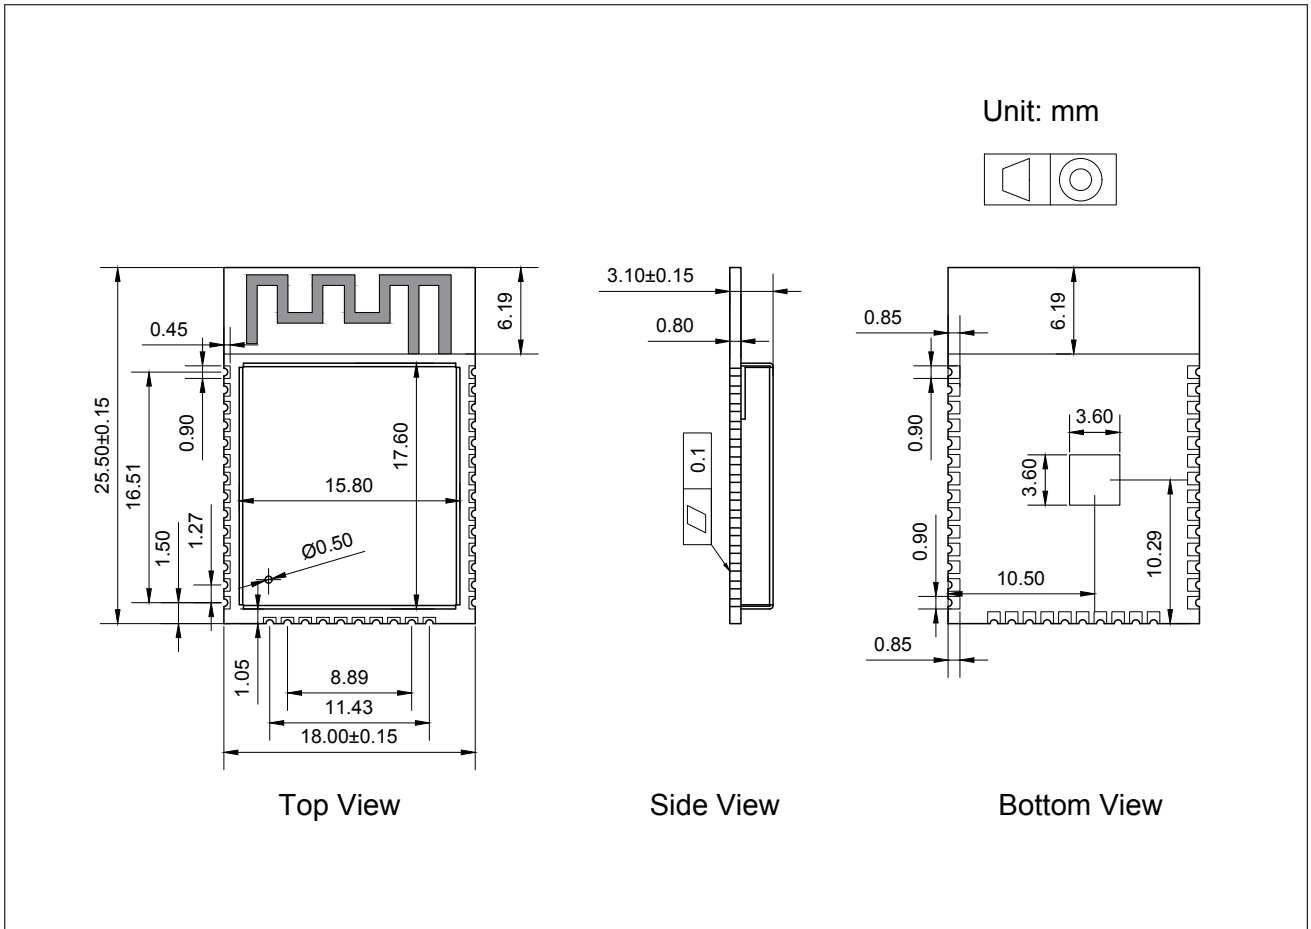
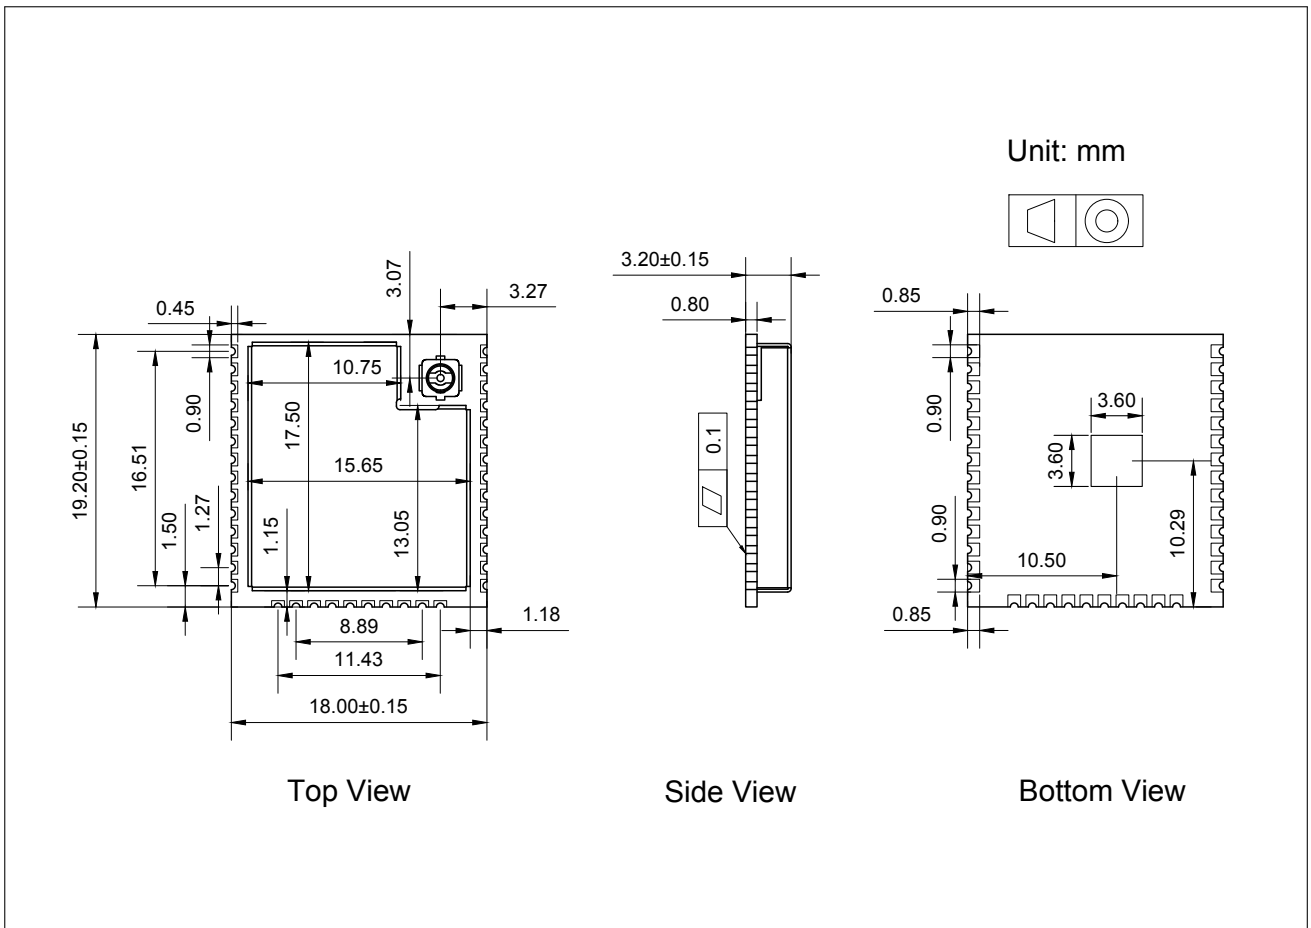
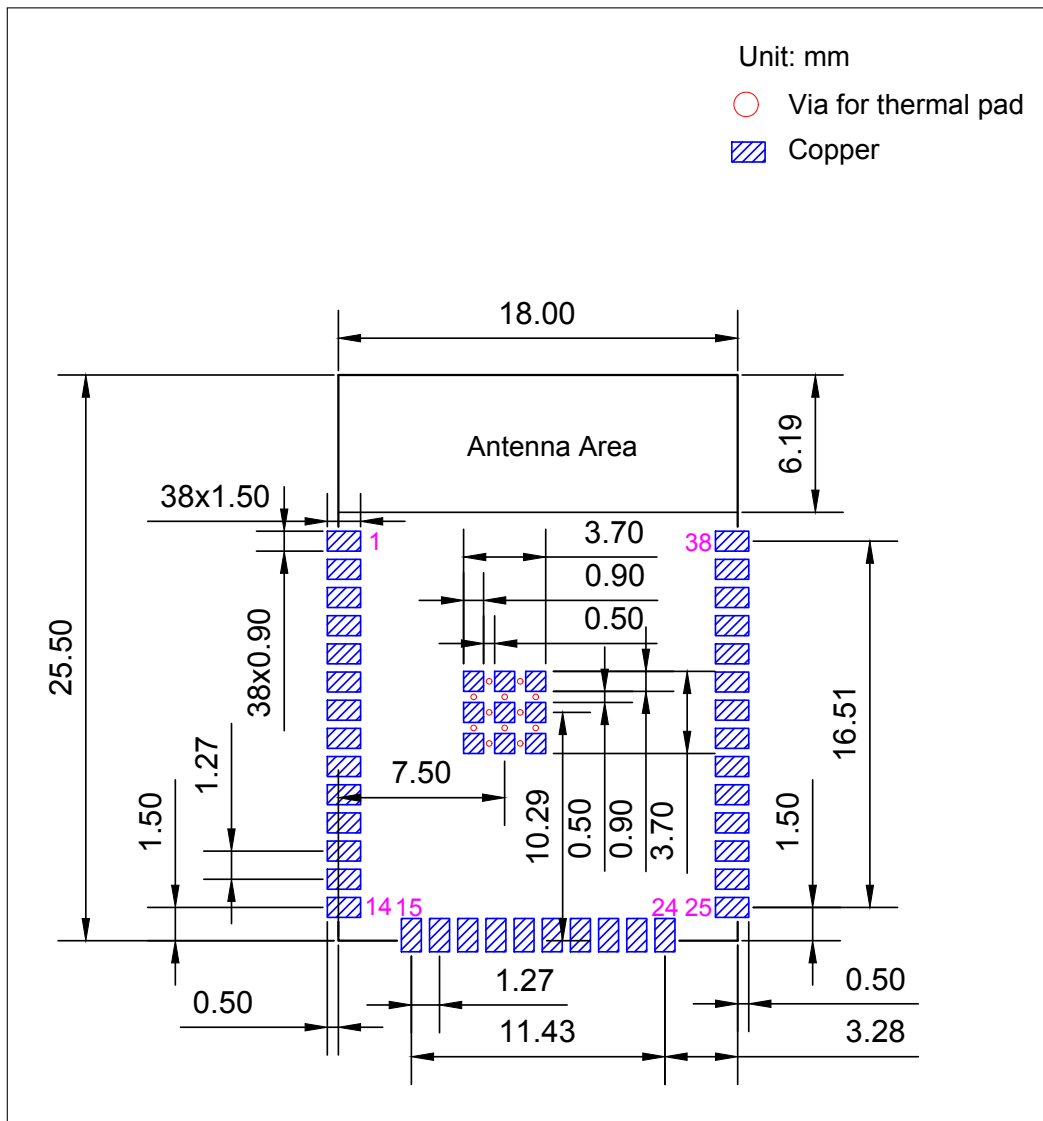

Figure 6: Physical Dimensions of ESP32-WROOM-32D
Figure 7: Physical Dimensions of ESP32-WROOM-32U
Figure 8: Recommended PCB Land Pattern of ESP32-WROOM-32D
- Figures for recommended PCB land patterns with all the dimensions needed for PCB design. See Figure 8 *Recommended PCB Land Pattern of ESP32-WROOM-32D* and Figure 9 *Recommended PCB Land Pattern of ESP32-WROOM-32U*.
- Source files of recommended PCB land patterns to measure dimensions not covered in Figure 8 and Figure 9. You can view the source files for ESP32-WROOM-32D and ESP32-WROOM-32U with Autodesk Viewer.
| 2022.03 | v2.3 | Updated Table 1 Added a link to RF certificates in Table 2 Updated Table 6 Added a note below Figure 7 Updated the description to the connector Added Section 12: Related Documentation and Resources |
| 2021.02 | V2.1 | Updated Figure 6: Physical Dimensions of ESP32-WROOM-32D , Figure 7: Physical Dimensions of ESP32-WROOM-32U , Figure 8: Recommended PCB Land Pattern of ESP32-WROOM-32D , and Figure 9: Recommended PCB Land Pattern of ESP32-WROOM-32U . Modified the note below Figure: Reflow Profile. Modified the note below Figure 5: ESP32-WROOM-32D & ESP32-WROOM-32U Peripheral Schematics . Updated the trade mark from TWAI™ to TWAI®. |
| 2019.09 | V1.9 | <ul style="list-style-type: none"> Changed the supply voltage range from 2.7 V ~ 3.6 V to 3.0 V ~ 3.6 V; Added Moisture sensitivity level (MSL) 3 in Table 2 ESP32-WROOM-32D and ESP32-WROOM-32U Specifications; Added notes about "Operating frequency range" and "TX power" under Table 9 Wi-Fi Radio Characteristics; Updated Section 7 Peripheral Schematics and added a note about RC delay circuit under it; Updated Figure 8 and Figure 9 Recommended PCB Land Pattern. |
| 2018.09 | V1.6 | Updated the hole diameter in the shield from 1.00 mm to 0.50 mm, in Figure 6. |
| 2018.08 | V1.5 | <ul style="list-style-type: none"> Added certifications and reliability test items the module has passed in Table 2: ESP32-WROOM-32D and ESP32-WROOM-32U Specifications, and removed software-specific information; Updated section 3.4: RTC and Low-Power Management; Changed the modules' dimensions; Updated Figure 8 and 7: Physical Dimensions; Updated Table 9: Wi-Fi Radio. |